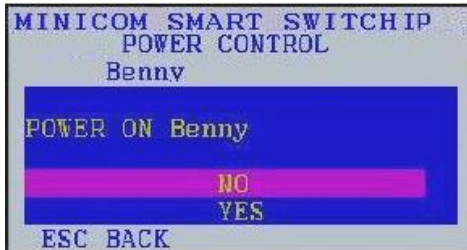

Figure 41 Power prompt
4. A prompt appear, see Figure 41. Select the desired option and press Enter. The power command is sent.